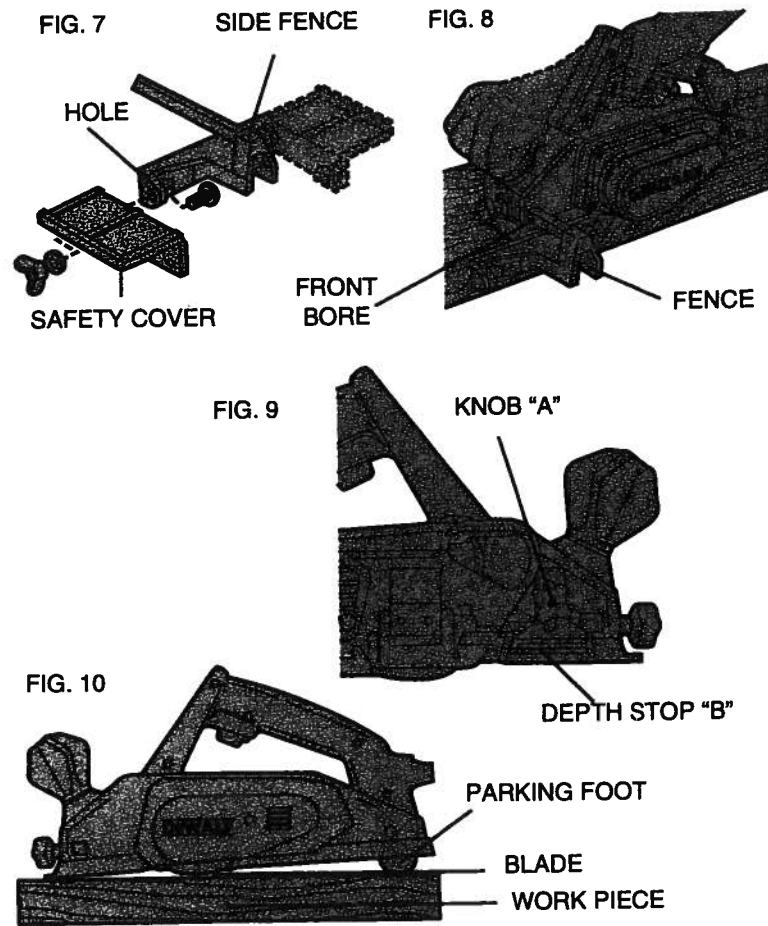

FIG. 11
**NOTE:** For proper rabbeting, it is necessary to use fence. Refer to Figure 11.
For proper rabbeting, it is necessary to use the fence. Refer to Figure 11. Adjust to desired cutting width by loosening fence clamping knob, move fence to preferred setting, then retighten knob.